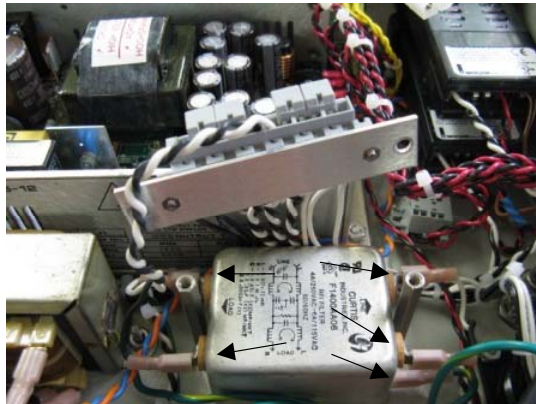

Figure 4
- 5) Using a pair of needle nose pliers, remove all (5) wire terminal connections. Fig.4